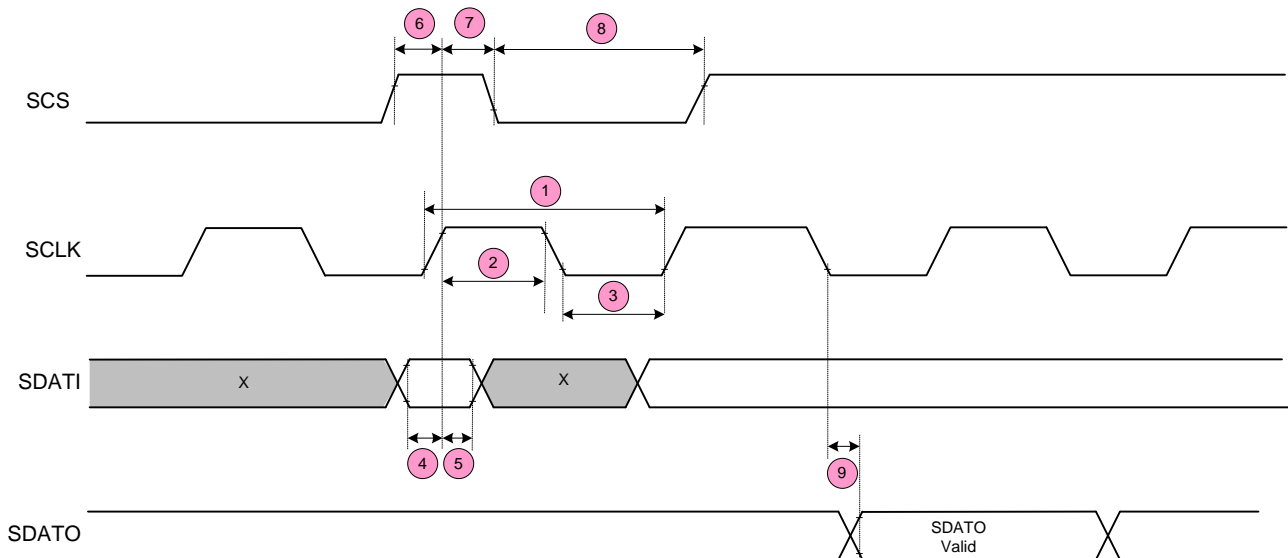

Figure 1. SPI Timing Requirements
(1) These numbers refer to the corresponding number in Figure 1
(2) SMODE = Low